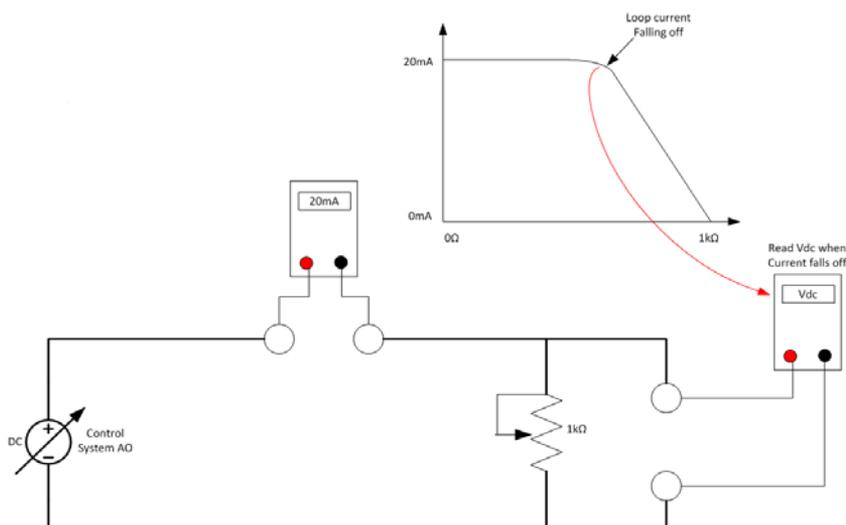

Figure 72 Compliance Voltage Test Setup
1. Configure a test setup as in Figure 72.